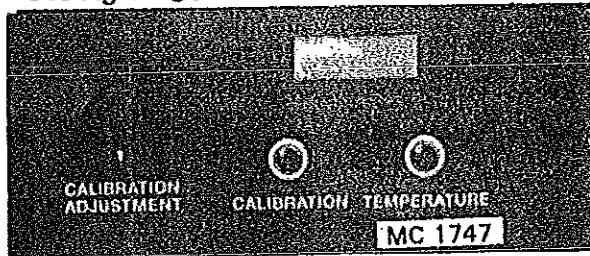

Figure 39
- A. The Digital Display Meter shows grain moisture constantly and should read approximately 6% when Sensor is in open air (no grain passing over Sensor), see Figure 39.
- B. Push Grain Temperature Button and the display meter will show Temperature of Grain on the sensor, see Figure 39.
- C. Push Calibration Button and the display meter will show the amount added to or subtracted from the displayed moisture (-9.9 to +9.9), see Figure 39.